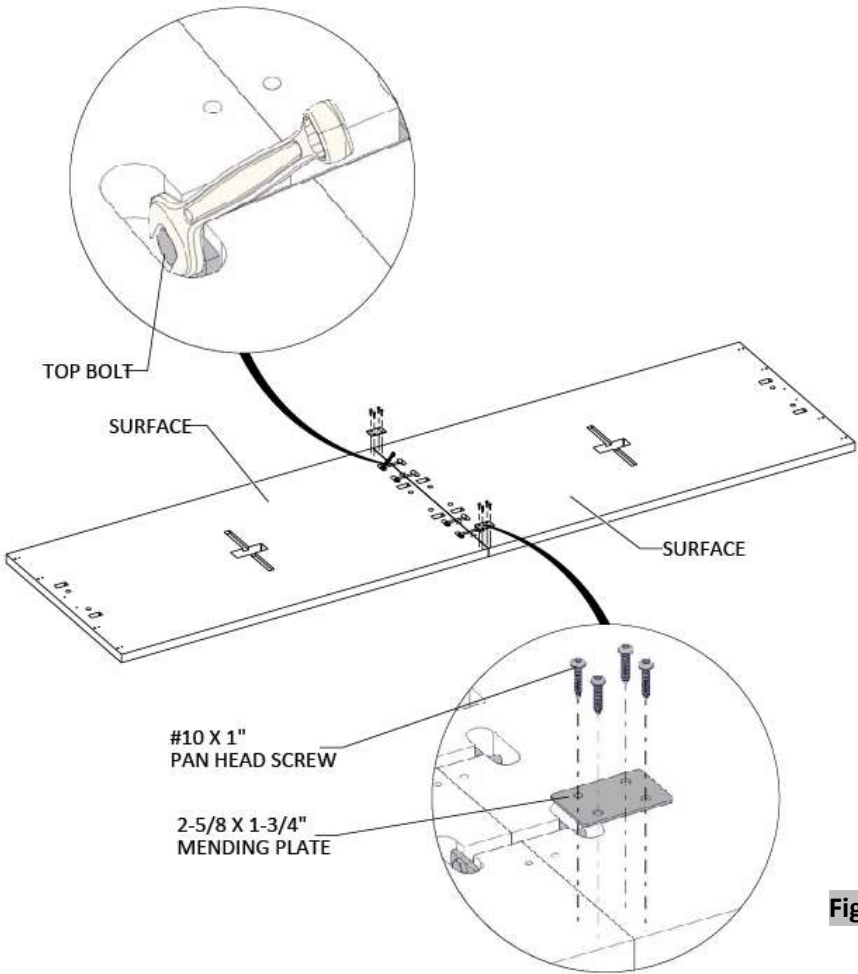

Figure 2
- Place the top bolt into the groove. Tighten the bolt using a box wrench, (Figure 2).
- Attach the mending plates, using #10 X 1" Pan Head Screws, (Figure 2).